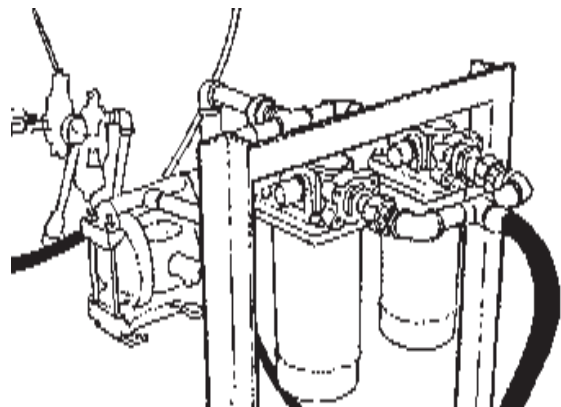

Figure 32
3. Avoid Hydraulic Contamination by filtering the Hydraulic Oil while filling the Hydraulic Tank. Filter buggies or carts are commercially available for Hydraulic system cleanup and Oil transfer. These consist of high capacity filter, a Circulating Pump, a Drive Motor and hoses for connecting to the units hydraulic system. When adding Oil always use Clean new Oil from a sealed container, If you suspect the Oil of being contaminated don't use it. (See Figure 32 & 33). It is best to always use a filter system when adding even new oil.